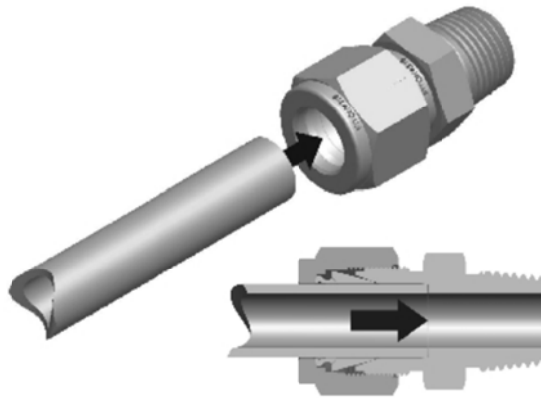

Figure 3
4.1.1 Insert the tube into the tube fitting. Make sure the tubing rests firmly on the shoulder of the fitting body. Finger tight the nut as shown in Figure 3.